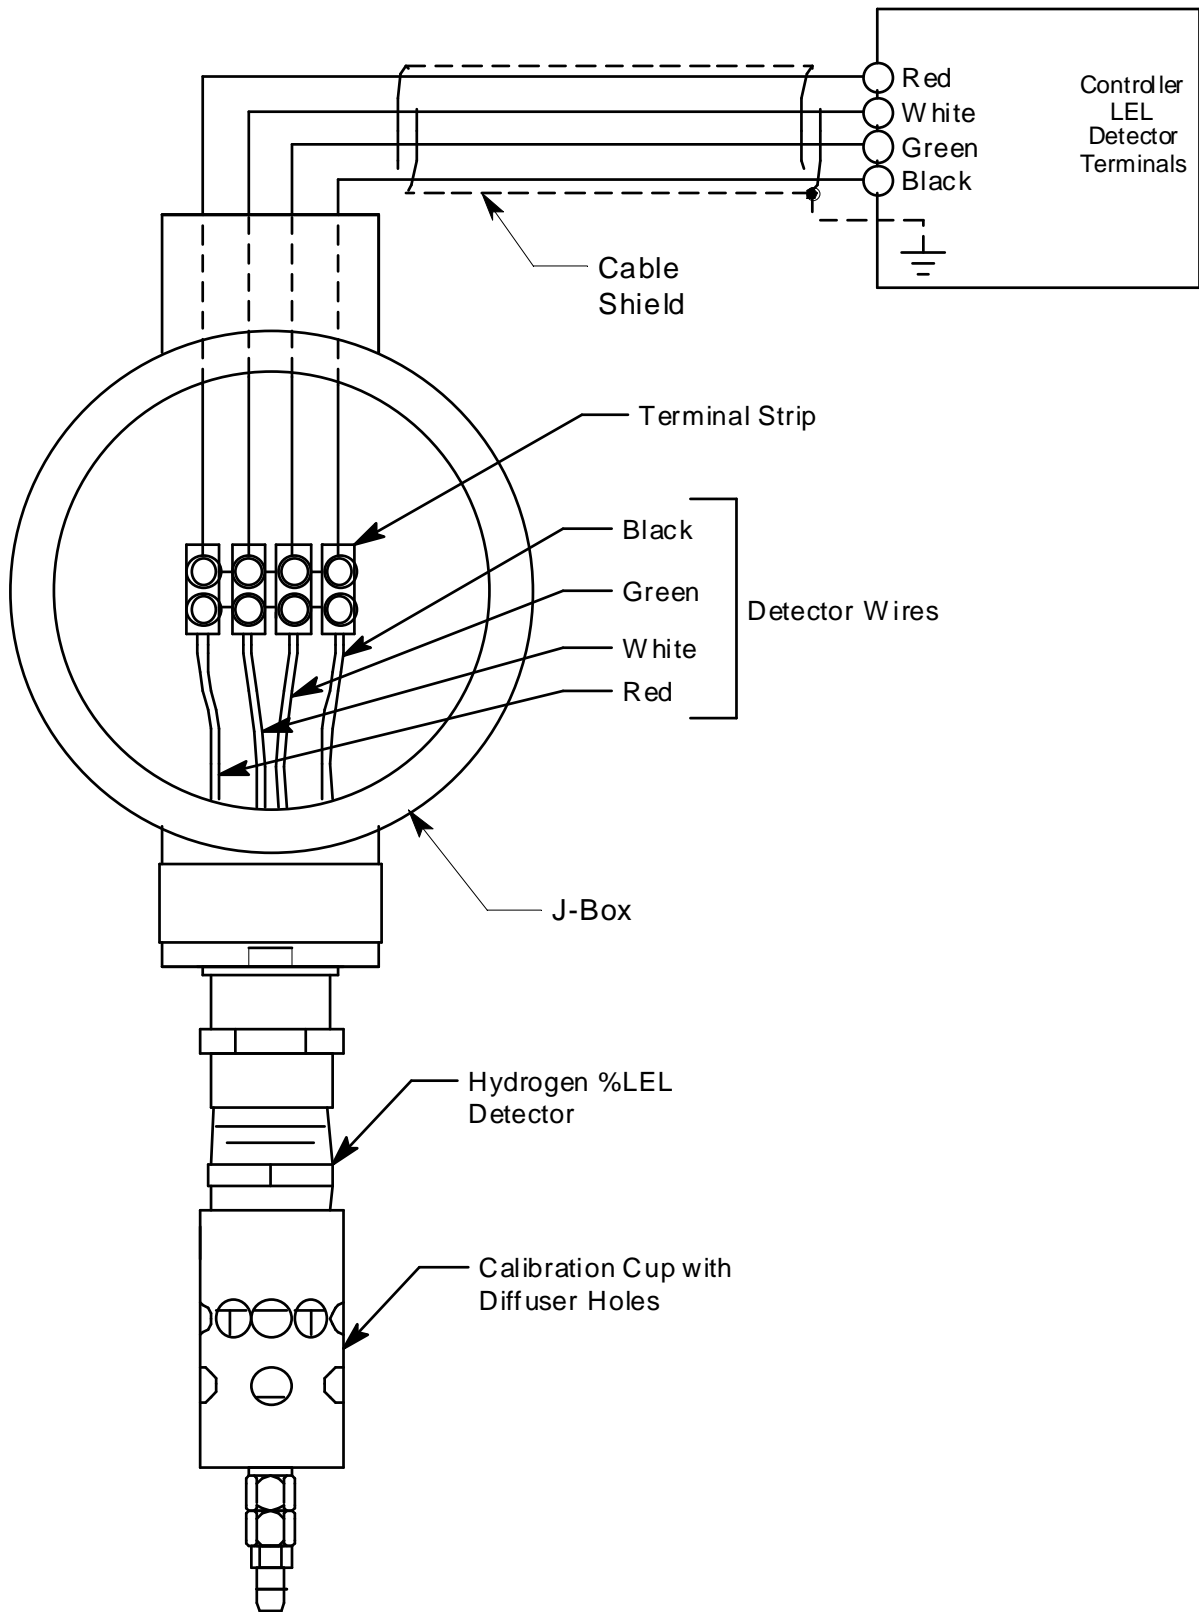

Figure 3: Wiring the Hydrogen Detector to a Controller
7. Connect the detector leads to the terminal block the same way the old detector was wired (see Figure 3). See the controller operator's manual and the controller's detector head specification sheet for the 61-1001RK-03 detector to verify the connections to the controller are correct.